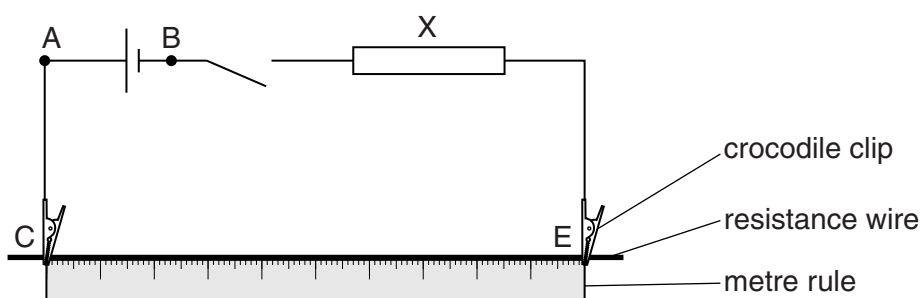

Fig. 4.1
Four connecting leads to enable the Supervisor to set up the circuit shown in Fig. 4.1. The points A, B, C and E should be labelled.
- At the changeover, the Supervisor should check that the circuit is set up as in Fig. 4.1 with the switch open. The voltmeter should be disconnected from the circuit and the two connecting leads and sliding contact should be placed on the bench. If cells are used, they should be checked, and replaced if necessary.